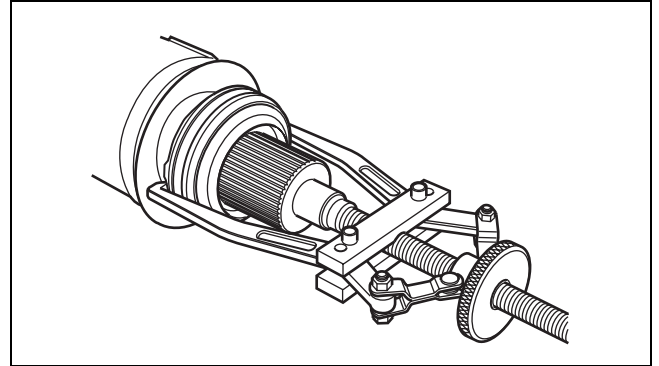

Figure 9.11
3. Use a puller to remove the bearing assembly from the coupling shaft. Follow the puller tool manufacturer's instructions. Discard the center bearing. Figure 9.11.